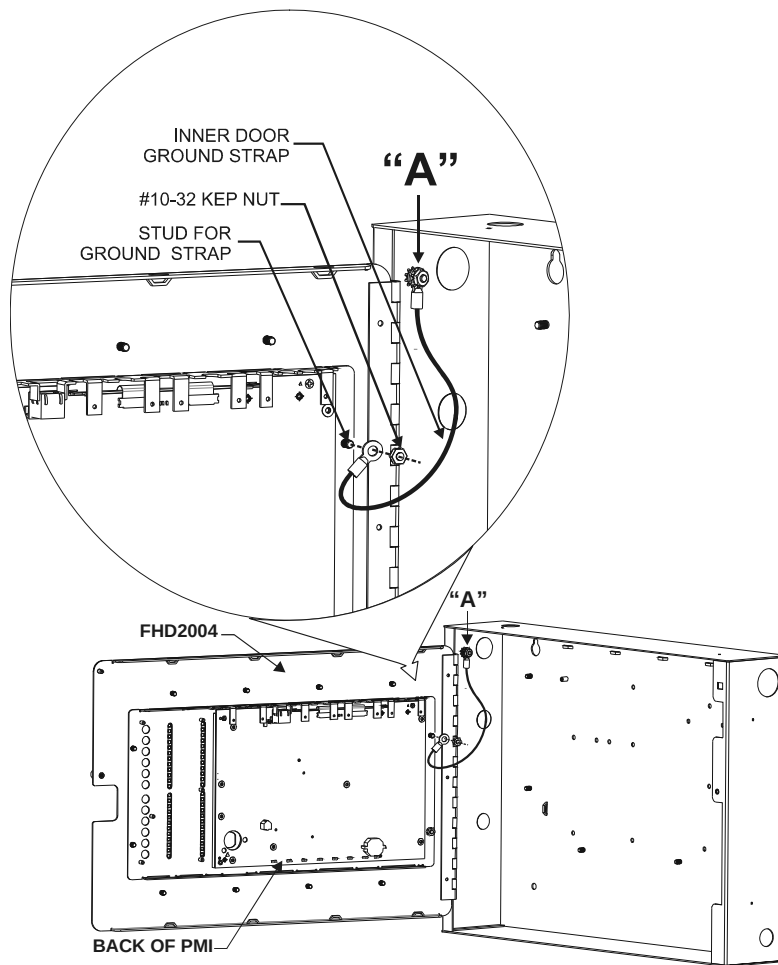
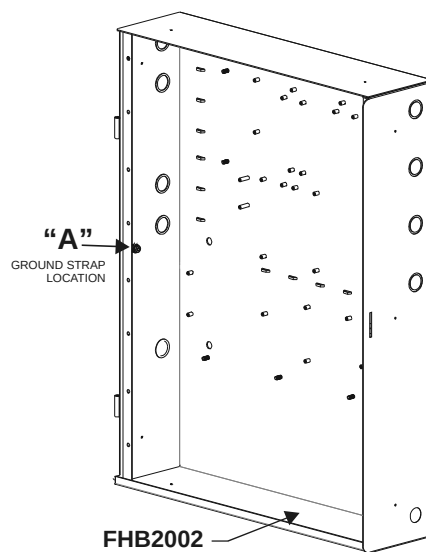

Figure 3
Figure 4
- Refer to Figure 3 which illustrates ground strap installation in an FHB2001 enclosure. Ground strap installation in an FHB2002 enclosure is done in the same way. Figure 4 shows the location of the ground strap stud in the FHB2002 enclosure.